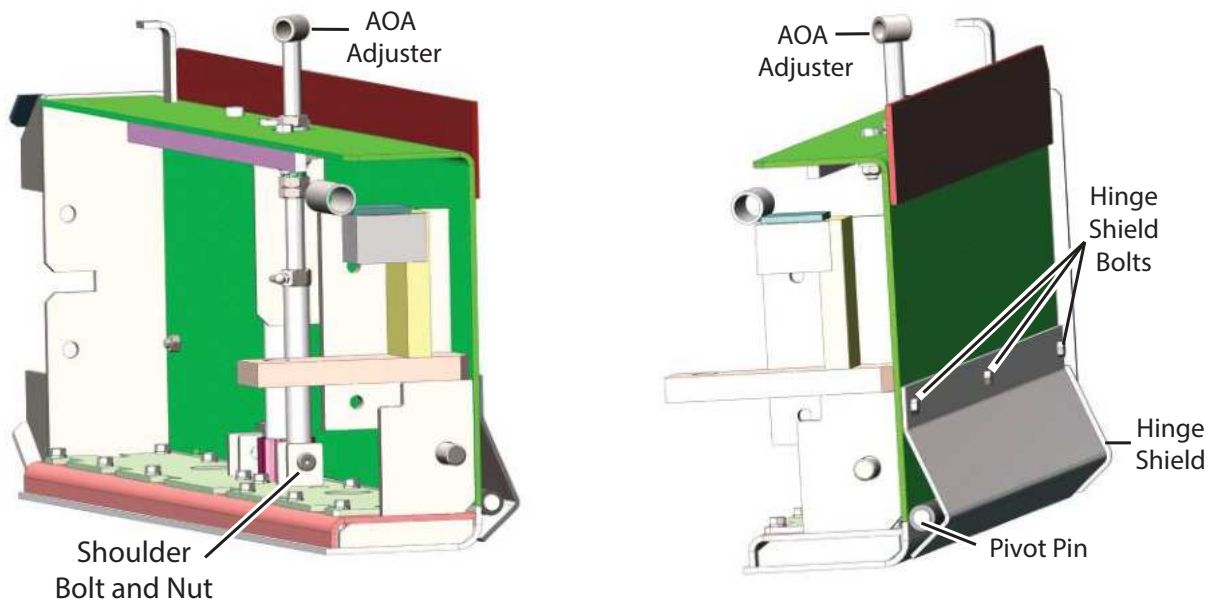

Figure 5-33 Wear Plate Replacement
3. Disconnect the extension AOA adjuster (**Figure 5-33**) on top of the wear plate by removing locknut, washer and shoulder bolt.